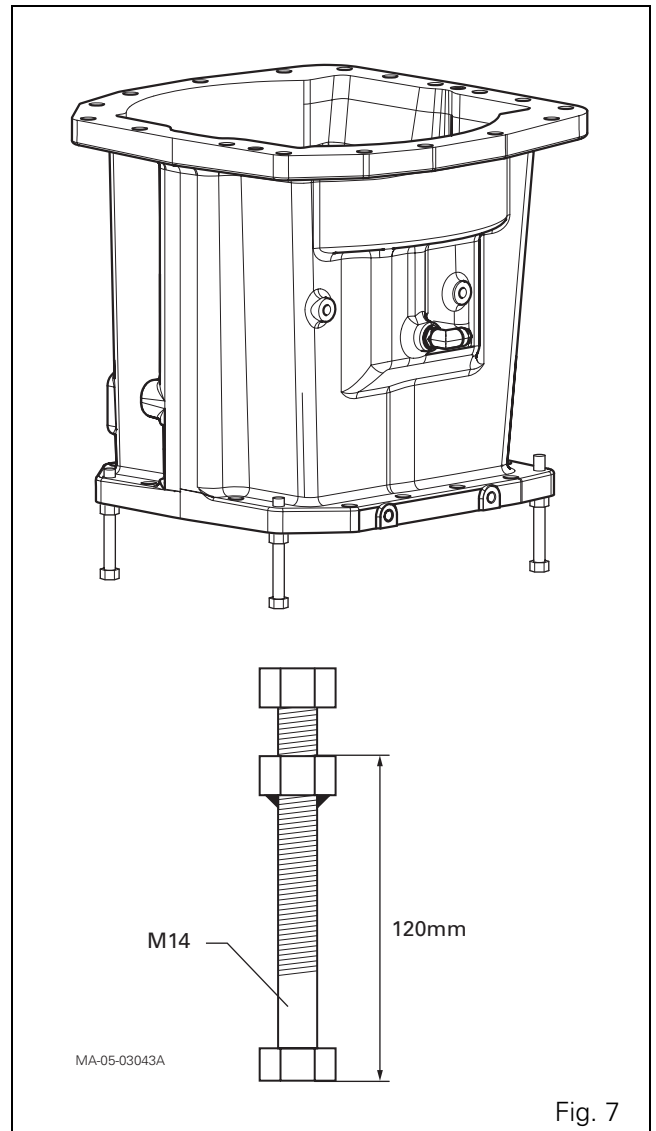
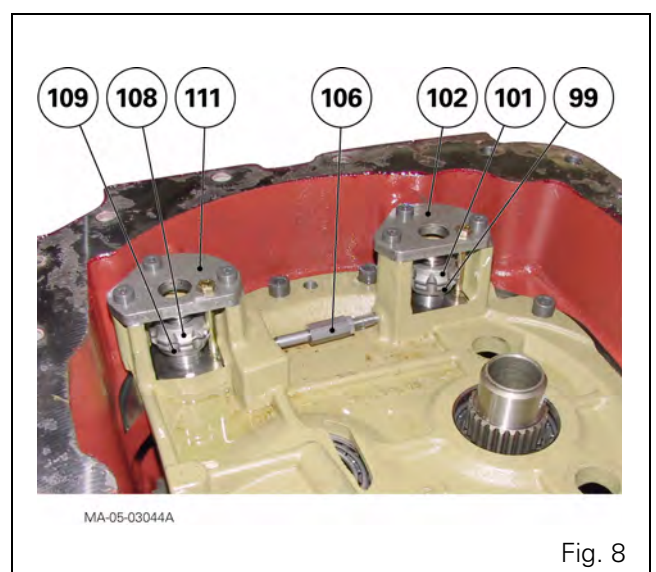

Fig. 7
Fig. 8
4. Rig up four makeshift legs on which to set the unit vertically, as shown in Fig. 7. Use an M14 screw or threaded rod, and weld on a nut to ensure a minimum distance of 120 mm between the unit and the work surface.
5. Position the unit on the legs, with the cover (6) on top.
6. Take off the covers (102) and (111). Unscrew the castellated nuts (99)(101) and (108)(109) (Fig. 8).
7. Retighten the safety finger rod (106) to its maximum (Fig. 8).